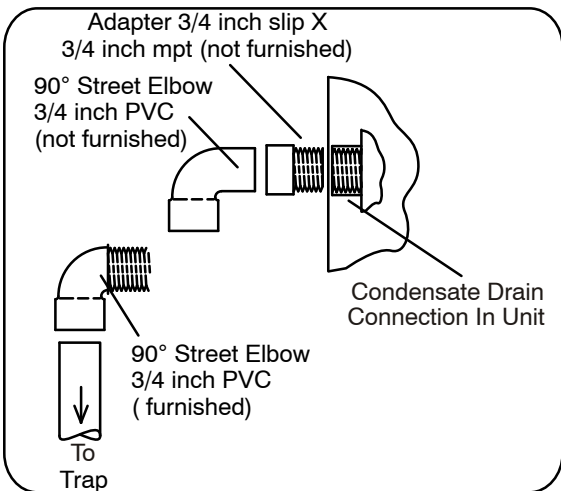

**FIGURE 48**
- Figure 47 shows the furnace and evaporator coil using a separate drain. If necessary, the condensate line from the furnace and evaporator coil can drain together. See figure 48. The field provided vent must be a minimum 1" to a maximum 2" length above the condensate drain outlet connection.